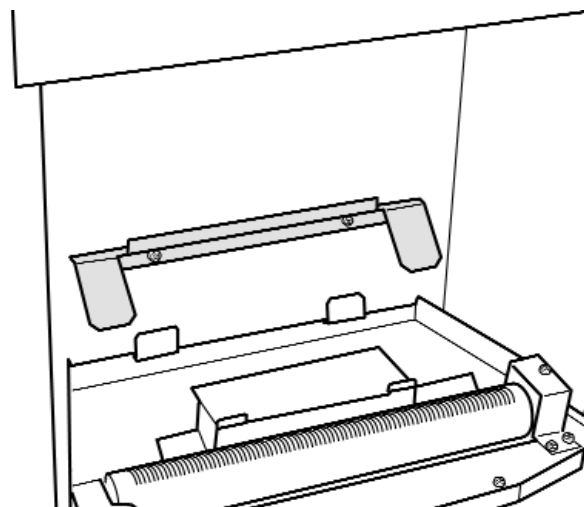

Figure 14. Fitting the rear ceramic support.
6. This appliance is supplied with a rear ceramic support bracket. Fit this using two 'B' screws supplied (See figure 14).